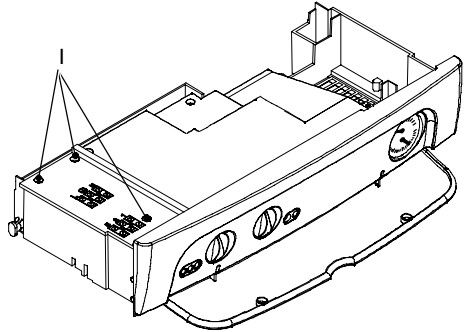

Fig. 6.16
- 5 Loosen the screws *I* and remove the service panel (Fig. 6.16).